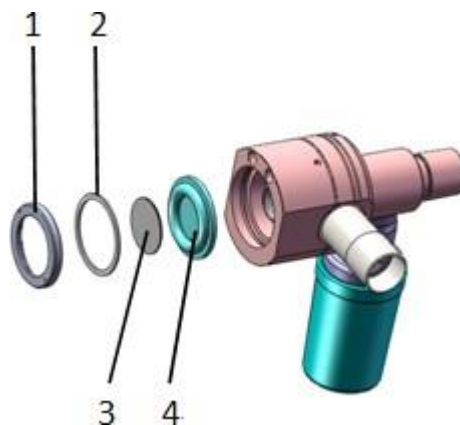

Figure 8-11
- c. Remove the safety valve cover (Part 1 in Figure 8-11) and the gasket (Part 2 in Figure 8-11);
- d. Remove the scale board (Part 3 in Figure 8-11) and the diaphragm (Part 4 in Figure 8-11);